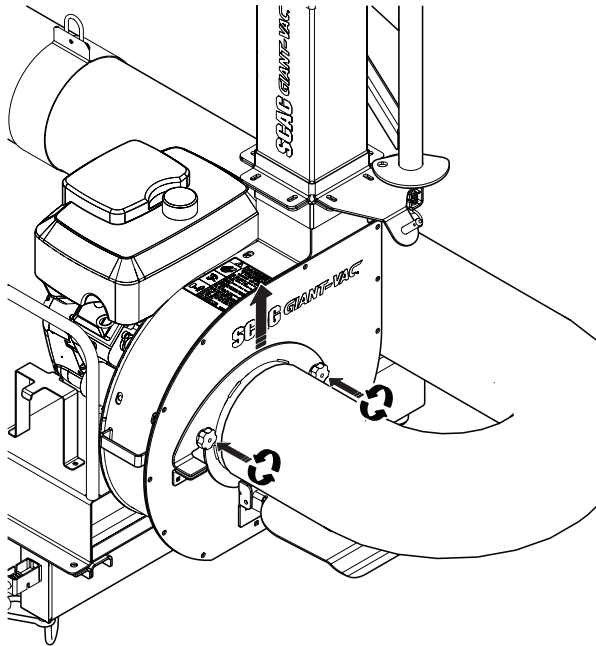

Figure 4-8. Intake Hose Removal
- When transporting the truck loader, remove the hose assembly from the unit. The hose assembly can be removed by loosening the two wing nuts and sliding the intake adapter upward. See Figure 4-8.